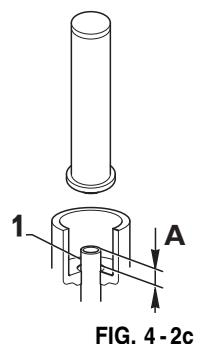

FIG. 4-2c
- Adjust oil suction pipe to measure "A" ($A = 26$ mm) (Fig. 4-2c).